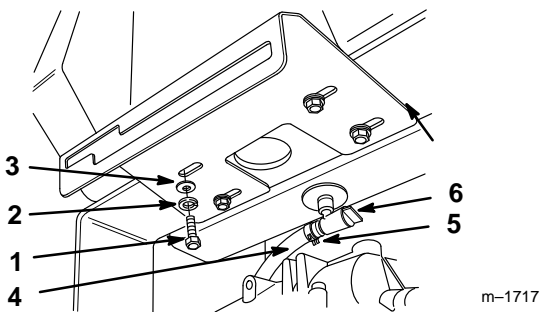

Figure 3
2. Secure control panel and fuel tank to rear frame with (4) 7/8 in. (22.5 mm) bolts, lock washers and washers (Fig. 3).
3. Slide hose clamp onto fuel line (Fig. 3). Push fuel line onto fuel tank fitting and secure with hose clamp (Fig. 3).